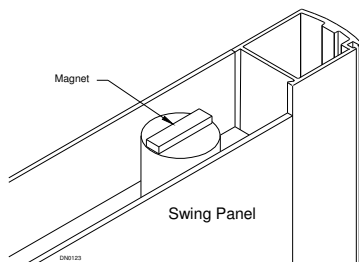

Figure 43
1. **Full Open Units:** Breakout magnet is secured inside top rail of swing panel. It should line up with magnetic reed switch (See Figure 43). Magnetic reed switch is a 3/8" dia. black circle on bottom side of header.